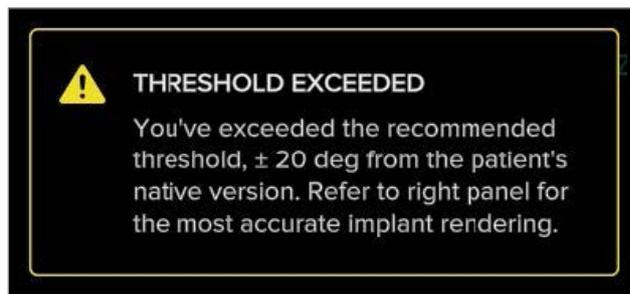

Figure 58a. Angulation control warning
- Should the desired torsion exceed  $20^\circ$  from the patient’s native torsion a warning will appear as shown in Figure 58a where the 2D view no longer provides the most accurate rendering.